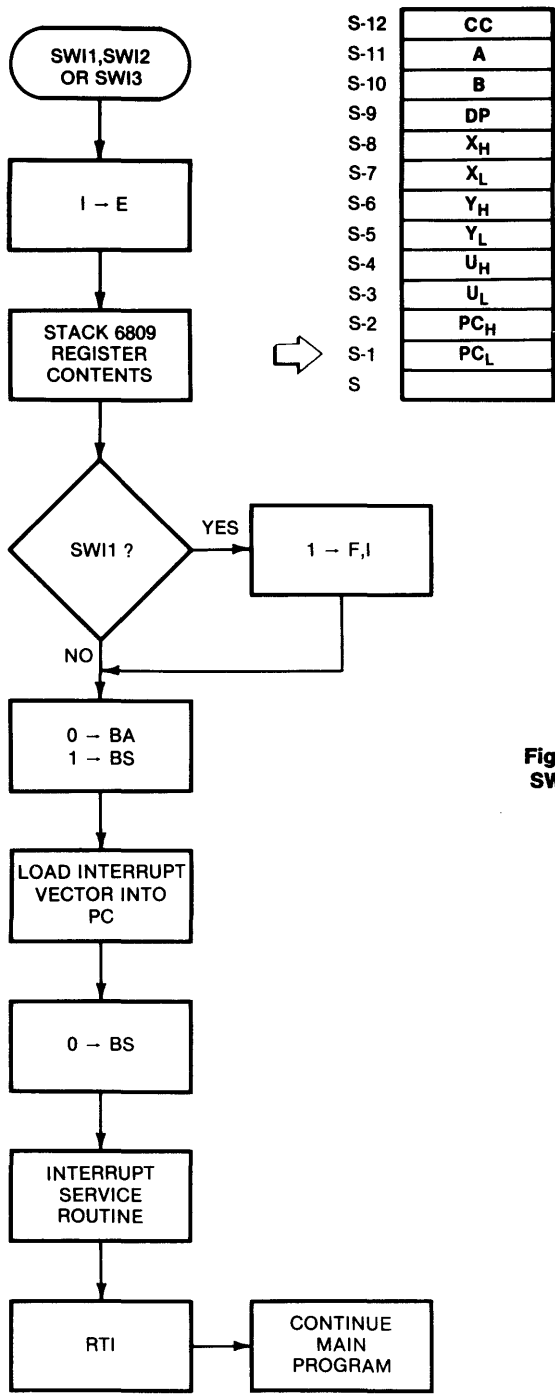

Fig. 5-4. SWI1, SWI2, and SWI3 sequence of events.
The three 6809 software interrupts have priorities in the following order: SWI1, SWI2, and SWI3. The sequence of events which is initiated with any of the three software interrupts is shown in Fig. 5-4. Note that once the present instruction is completed, the E flag of the condition code register is set, indicating that *all* of the 6809 registers (except S) are to be stacked in the S stack in the order shown in Fig. 5-4. If, after stacking, the SWI1 interrupt is being executed, the F and I flags are set to mask out any $\overline{\text{FIRQ}}$ or $\overline{\text{IRQ}}$ hardware interrupts which might occur during the SWI1 interrupt service routine. If an SWI2 or SWI3 is being executed, $\overline{\text{FIRQ}}$ and $\overline{\text{IRQ}}$ hardware interrupts will *not* be masked out unless you set the F and/or I flags during the interrupt service routine. The 6809 then acknowledges acceptance of the software interrupt to external devices by providing a logic 1 (high) level on the bus status (BS) output line. (The use of this line will be discussed shortly.) The proper interrupt vector is then loaded into the program counter, BS is brought back to a logic 0 (low) level, and the appropriate interrupt service routine is executed. Once the service routine has been completed, execution must be directed back to the main program. This is done by using a return from interrupt (RTI) instruction as the last instruction in the interrupt service routine. The RTI returns the 6809 to its previous status by automatically unstacking the old register contents from the S stack.